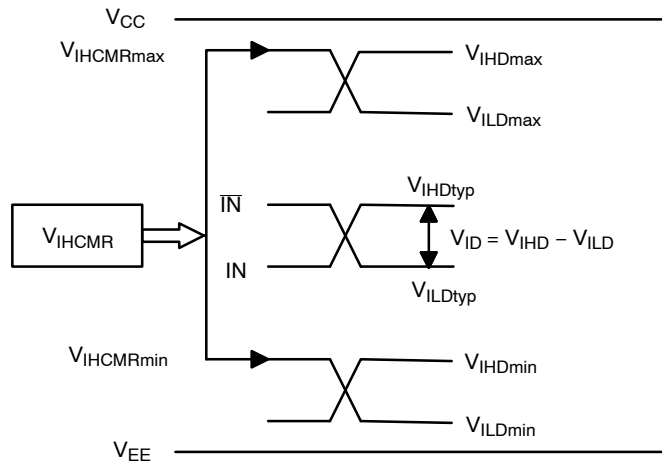

Figure 15.  $V_{IHCMR}$  Diagram
29.  $t_{\text{SKEW}} = |t_{\text{PLH}} - t_{\text{PHL}}|$  for a nominal 50% differential clock input waveform. See Figure 15.